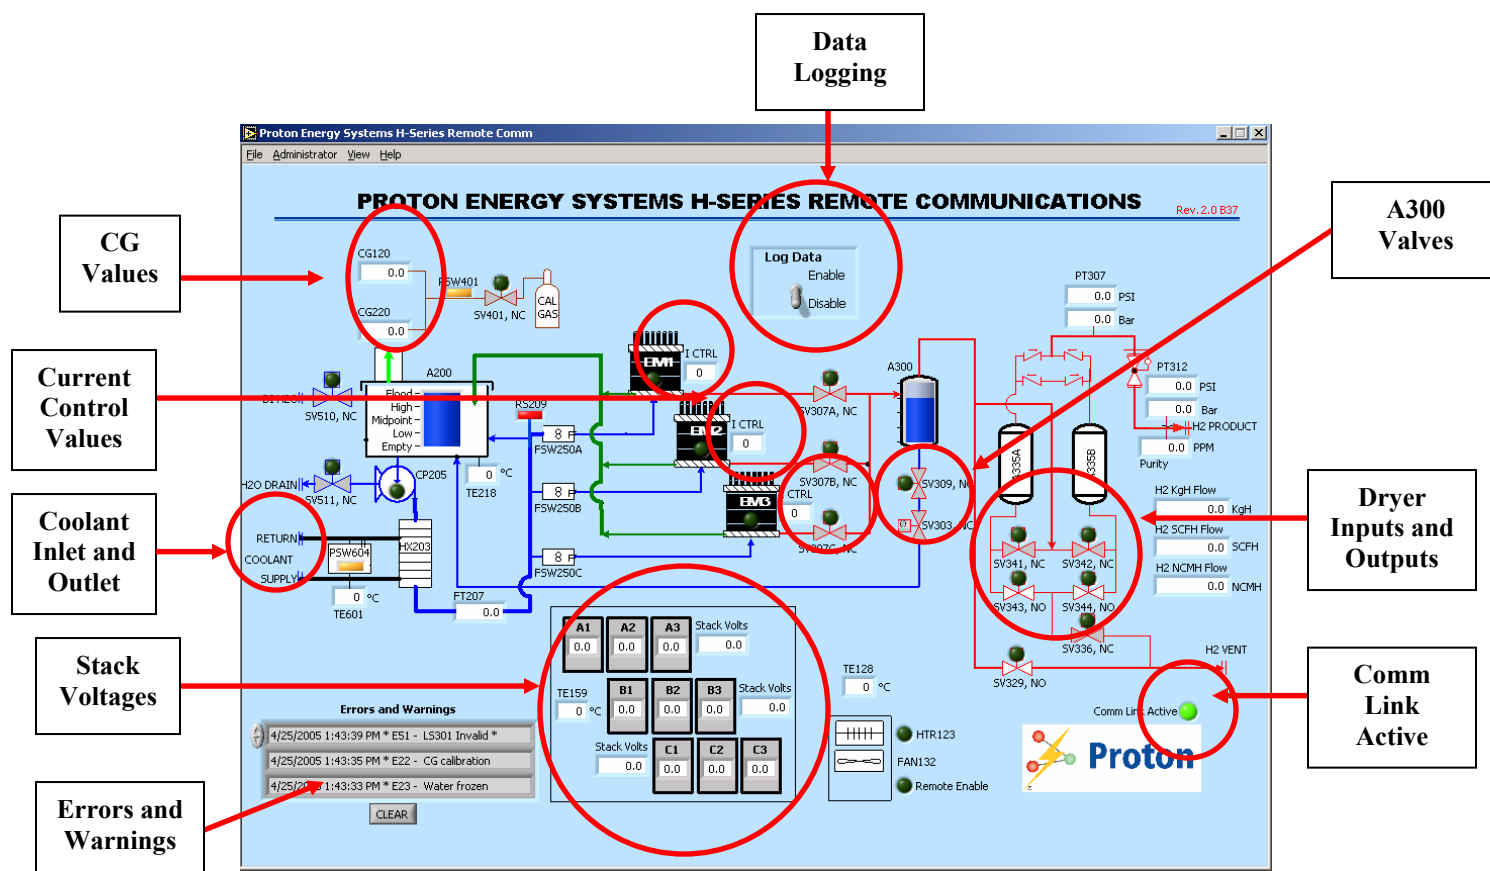
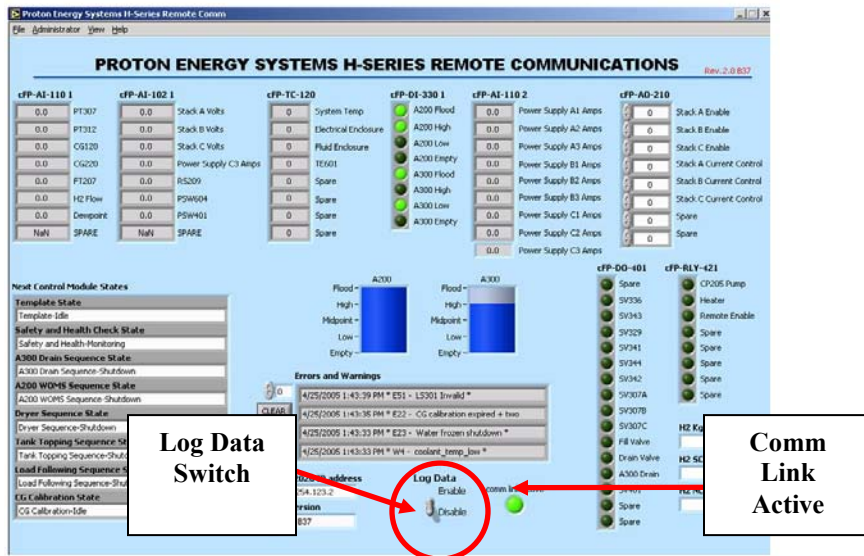

Figure 75 Remote Monitoring Software P&ID Screen
Figure 77 Remote Monitoring System Main Screen
Monitoring can be done using the P&ID screen (Figure 75) of the remote monitoring software or the main screen, which is seen in Figure 77. This screen has the same information as the P&ID Screen, but it is just in a different format.
If the valves are energized, then the node is turned green, like the Comm Link Active node in Figure 75 and Figure 77.
1. Double click on your desktop icon for the latest software to bring up the remote monitoring software main screen. (Refer to Figure 77.)
2. Initiate data logging by clicking on the “Log Data” switch located on the main screen. (Refer to Figure 77 and Figure 78.) The “Enable” and “Disable” switch enables the system to take data or disables the system so it does not log information.